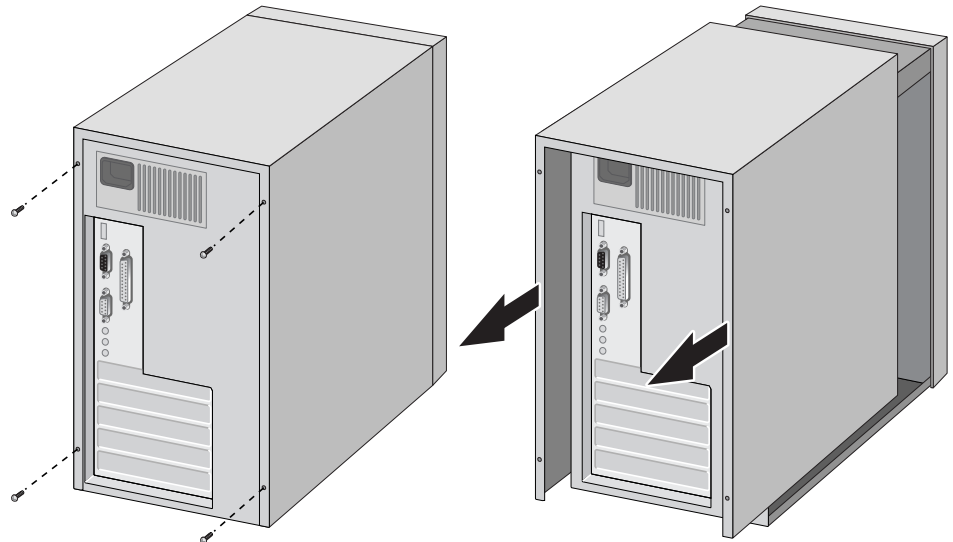

Figure 12. Removing the PC Cover
2. Remove the system cover and select any empty PCIe slot. See Figure 12 on page 35.